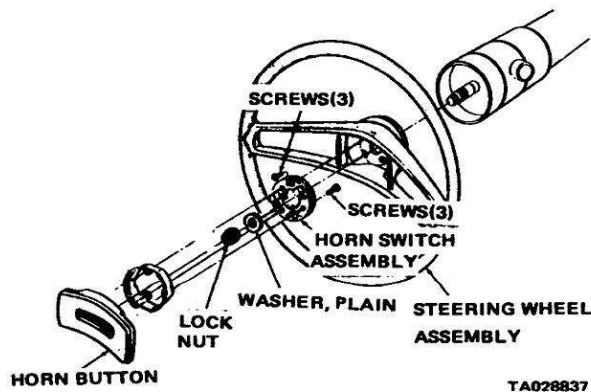

Figure 2-88. Steering Wheel Assembly.
c. Removing and Installing the Steering Wheel. Refer to figure 2-88.